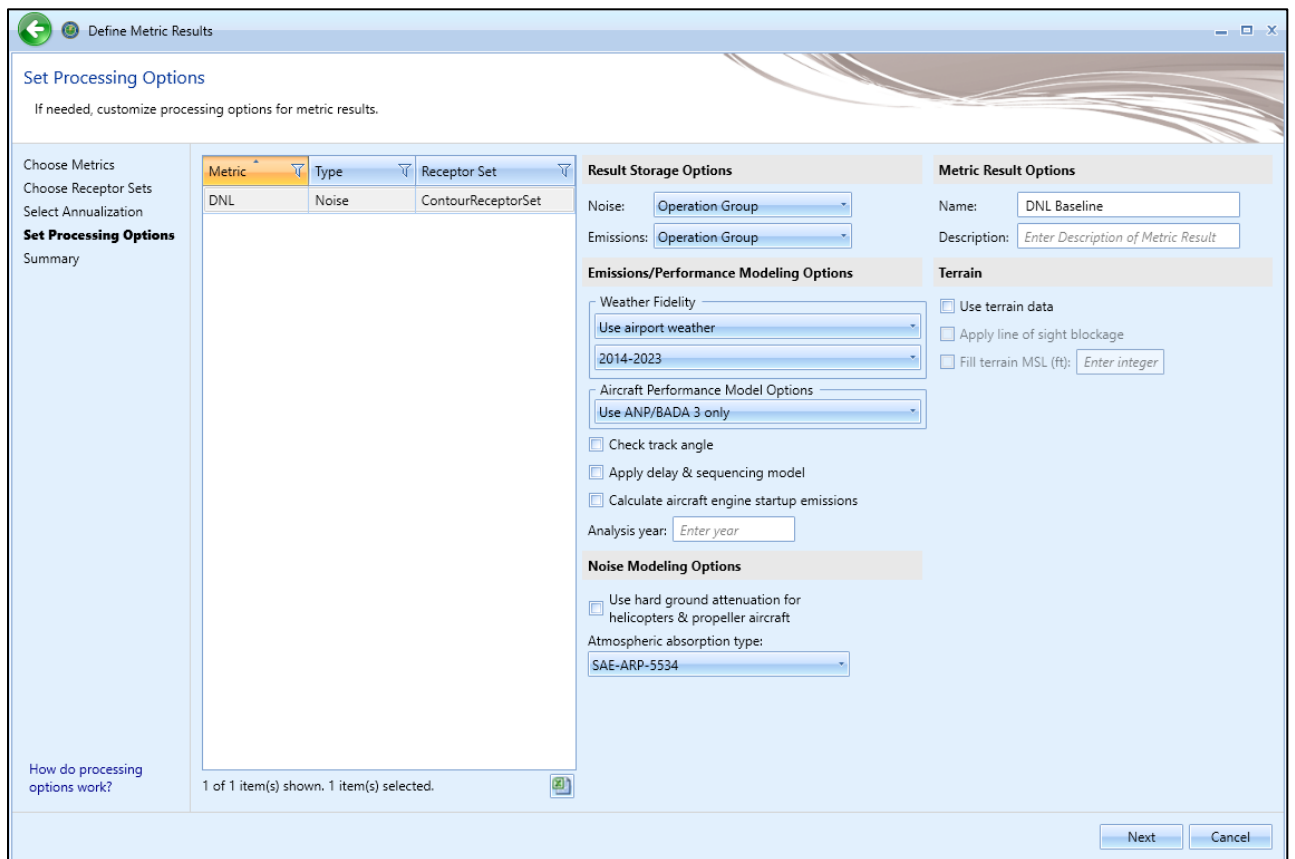

Figure 33. Define Metric Results Wizard – Set Processing Options
- Leave other options as is (Figure 33).